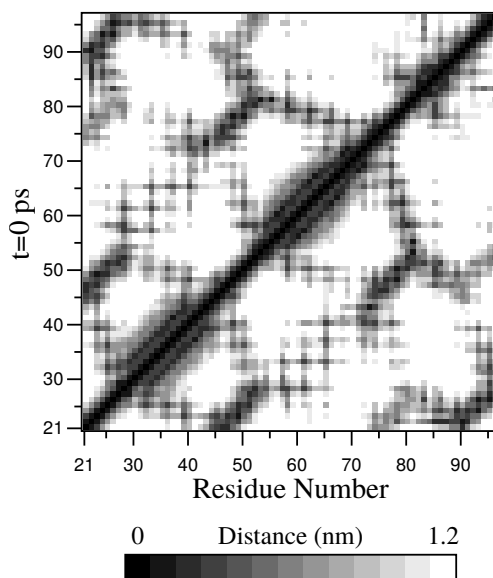

Fig. 5.57: A minimum distance matrix for a peptide *168* (page 519).
- To monitor the *minimum distances between amino acid residues* within a (protein) molecule, you can use the program *gmx mdmat* (page 111). This minimum distance between two residues  $A_i$  and  $A_j$  is defined as the smallest distance between any pair of atoms ( $i \in A_i, j \in A_j$ ). The output is a symmetrical matrix of smallest distances between all residues. To visualize this matrix, you can use a program such as *xv*. If you want to view the axes and legend or if you want to print the matrix, you can convert it with *xpm2ps* (page 181) into a Postscript Fig. 5.57.